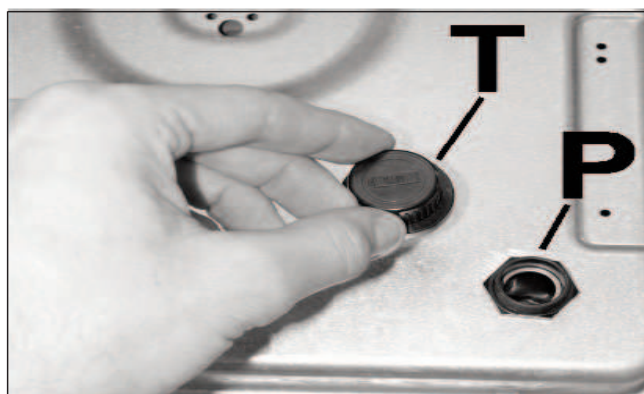

FIG. 12
- Unscrew the ignition cap "T" (see fig. 12) and fit a 1.5 V battery (not included in the appliance) with the positive "+" polarity turn inside. Rescrew the cap.